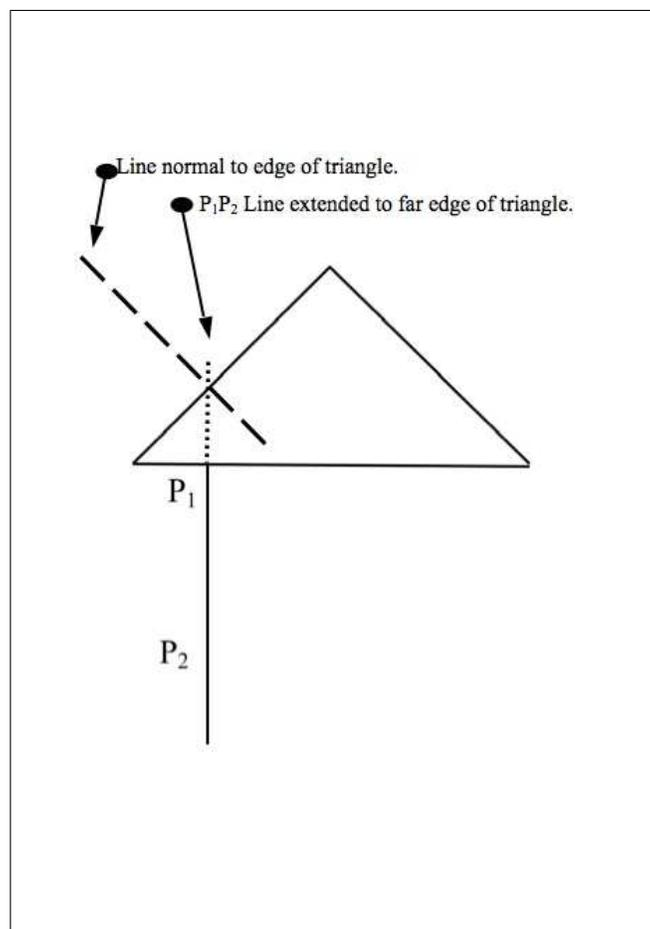

Figure 21.11: Total Internal Reflection
39. Place the plexiglass triangle in the center of a sheet of paper and trace around it. Draw a line normal to the bottom edge (the long side), about 1 cm from the left corner (Fig. 21.11). Place the paper and triangle on the corkboard; place two white pins on the normal line with their positions labeled P_1 and P_2 .